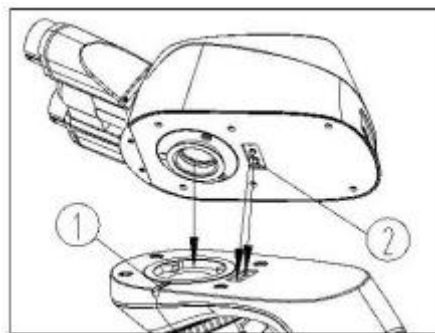

Figure 12
1. Completely loosen the locking screw (1) of the observation head. (See Fig. 12)